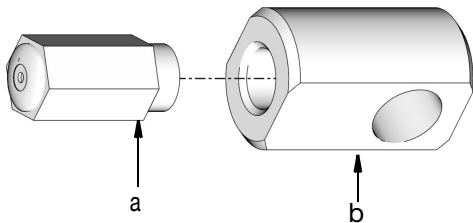

FIG. 33
- a. Apply thread sealant (user supplied) to threads of pressure relief valve (a) (FIG. 33).
- b. Install pressure relief valve (a) into banjo fitting (b). Wrench tighten (FIG. 33).